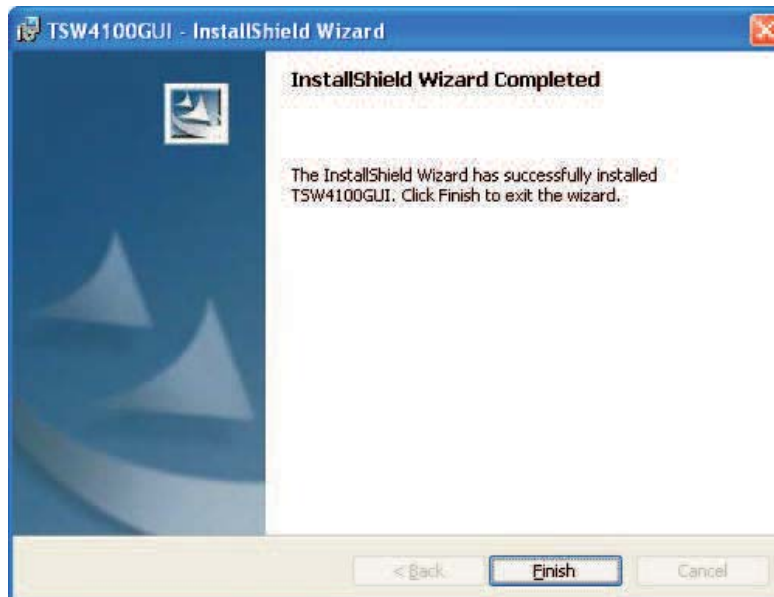

Figure 13. InstallShield Wizard Completed
- Click *Finish* once the InstallShield Wizard Completed screen (Figure 13) displays.